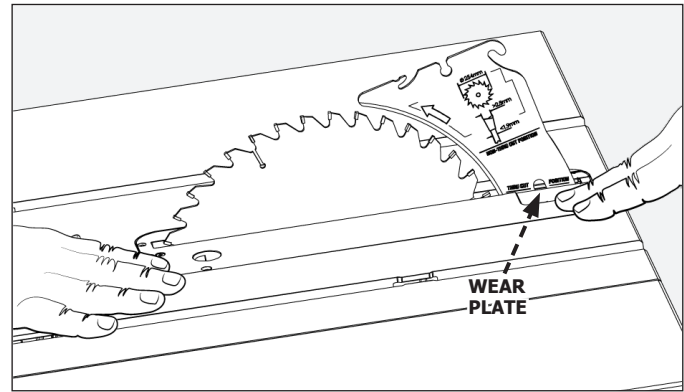

FIGURE 13
Insert the rear tab of the throat plate (G) (the end with the wear plates) under the surface of the table, and snap the front end in place (FIGURE 13).
Check that the throat plate is properly adjusted to the table. Front of throat plate should be level or slightly below the surface of the table and rear of the throat plate should be level or slightly above the surface of the table (FIGURE 13).